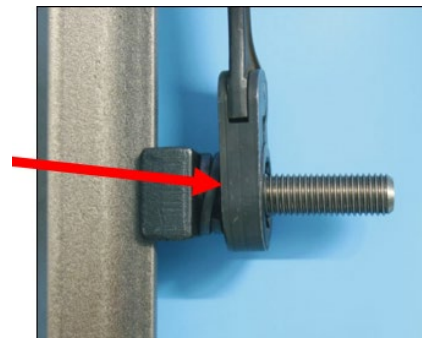

Figure 5 – Rail Claw Nut
- c) Figure 5 M12 nuts to 40Nm.